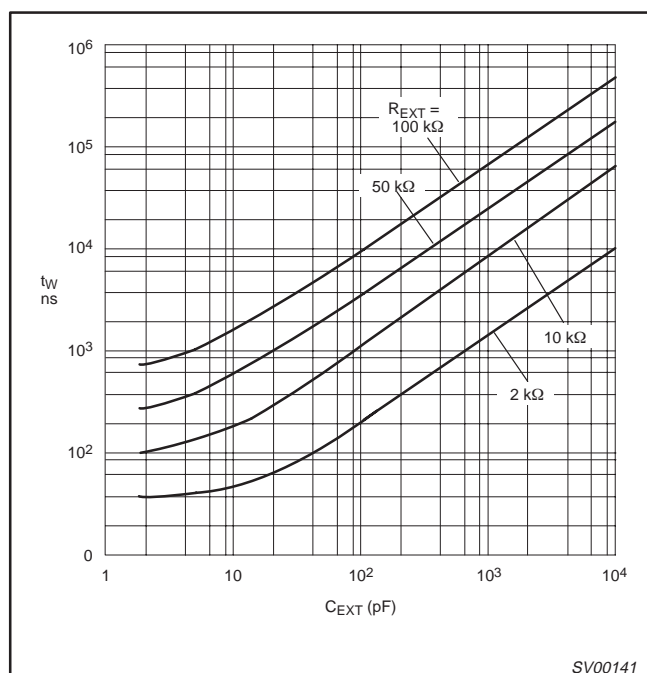

Figure 5. Typical output pulse width as a function of the external capacitor values at  $V_{CC} = 3.3$  V and  $T_{amb} = 25$  °C.
- For other  $R_{EXT}$  and  $C_{EXT}$  combinations see Figure 5.